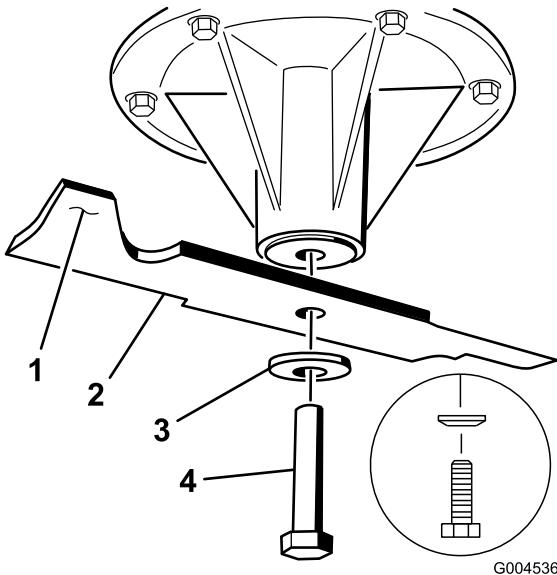

Figure 98
1. Install the blade onto the spindle shaft (Figure 98).
2. Install the spring disk and blade bolt. The spring disk cone must be installed toward the bolt head (Figure 98). Torque the blade bolt to 85-110 ft-lb (115-150 N-m).